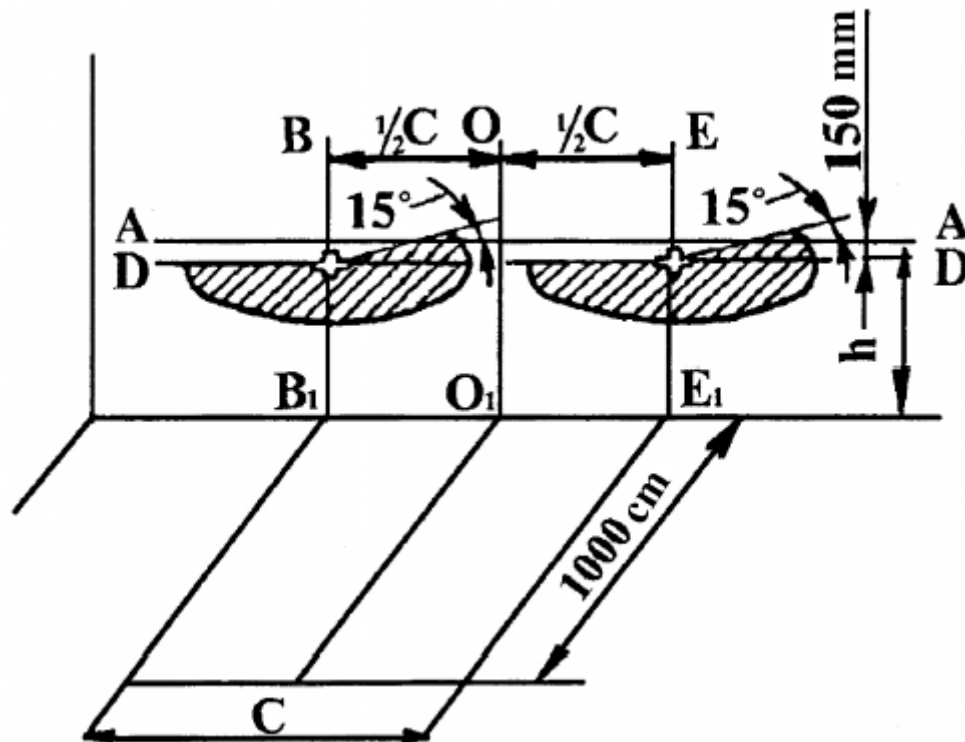

Fig. 16. Marking up the screen and adjusting the front headlights
- Mark out the screen as shown in Fig. 16. When doing this, mark the line of the centres of the headlights A-A on the screen at the distance equal to the height of location of the centres of the headlights above the ground level, and the lines B-B1 and E-E1 – at the distance C (the distance between the centres of the headlights in the horizontal plane). The distance should be measured immediately on the tractor. The air pressure in the tyres shall correspond to the recommended norms;